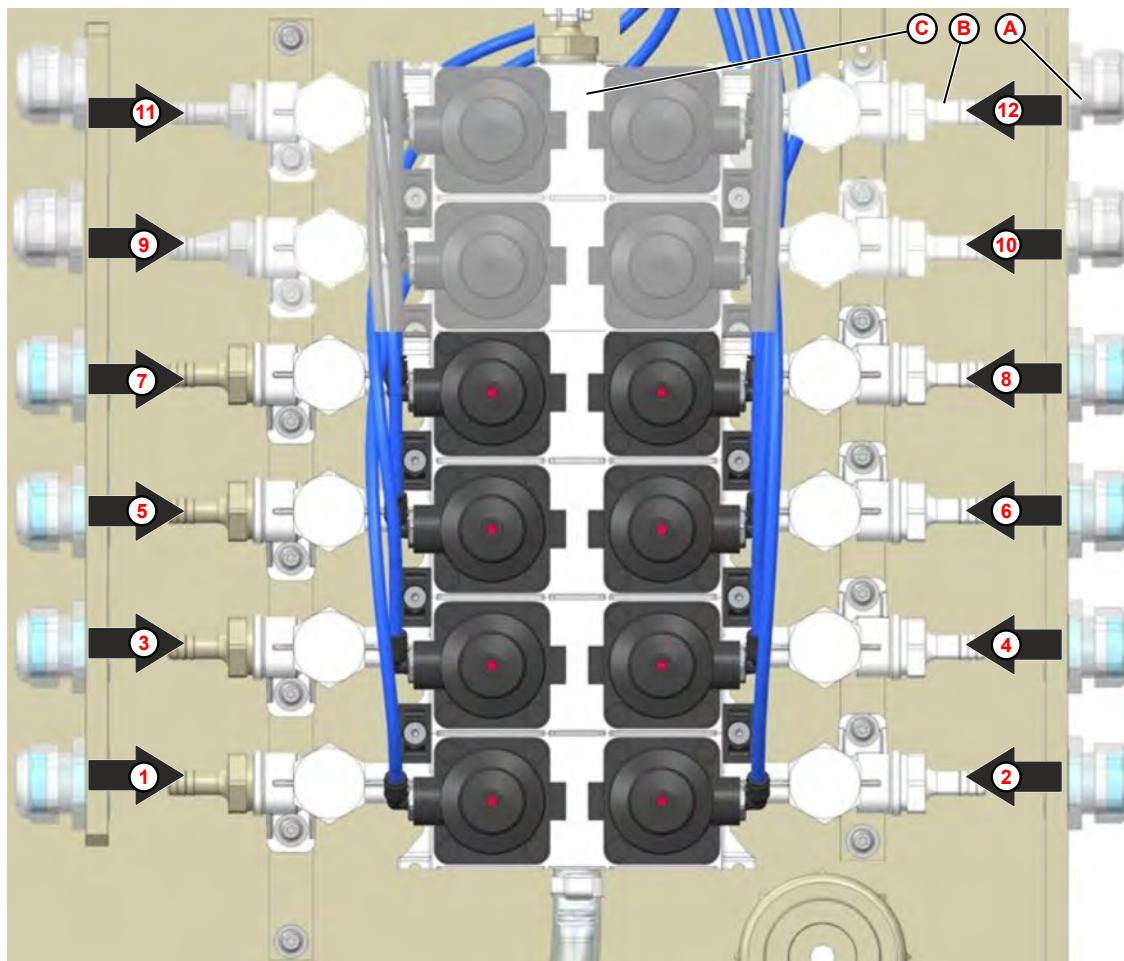

Fig. 6: Product assignment
1. Guide the hoses of the product suction pipes through the strain relief screw connections (Fig. 6 , item A).
2. Connect the hoses to the corresponding hose nipples (Fig. 6 , item B) of the valve block (Fig. 6 , item C) using the hose clamps supplied.